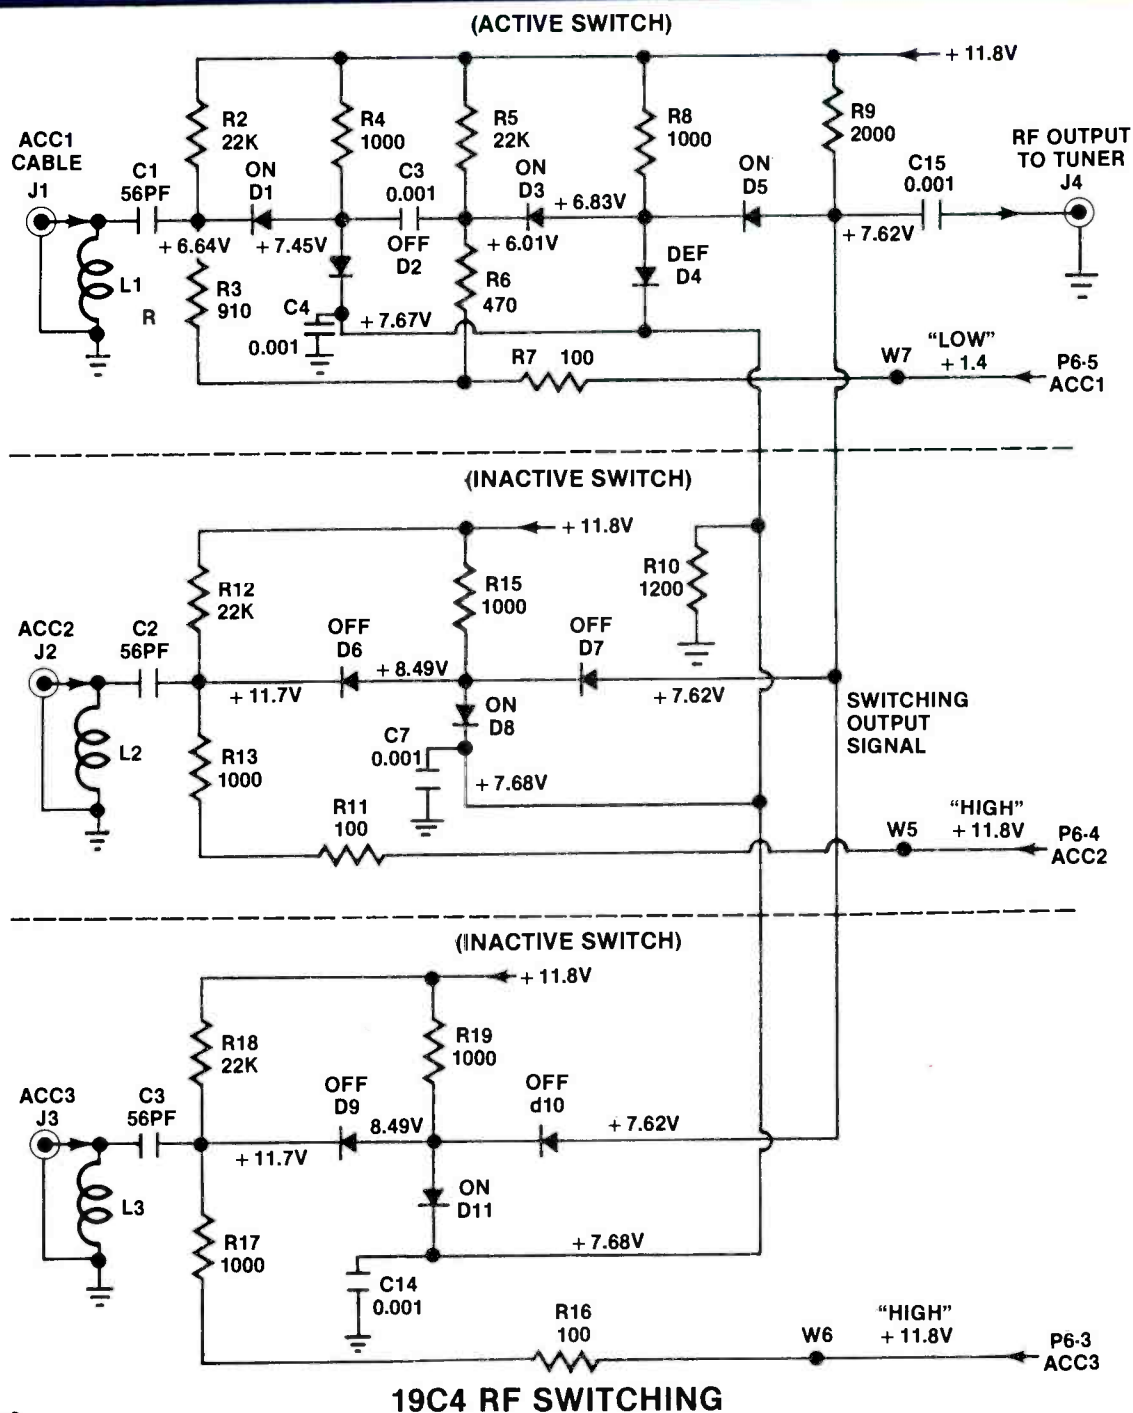

Figure 3.
**Figure 3.** This is the complete RF-switching system (less only some B+ details). The dc voltages shown were measured with the ACC1 signal passing through (active) and the other two blocking their RF signals (inactive). A digital low activates the ACC1 channel (P6-5 pin), while digital highs (+11.8V) applied to P6-4 and P6-3 force the other channels to be inactive. These control dc voltages are produced by an IC on the tuner-control board.
Figure 3 shows the entire 3-channel RF-switching circuit, complete with *measured* dc voltages. My first intention was to calculate the diode dc voltages for active (signal passing) and inactive (signal blocking) conditions, but the many paralleled paths made the mathematical solution so complex that I chose to measure the voltages instead. If you enjoy real puzzles such as this, calculate *all* dc voltages and then compare them with the schematic voltages measured with a DMM.
Operation of the ACC1 switcher (top in Figure 3) in the active mode (which passes the signal to the
Operation of the ACC2 switcher (Figure 3 center schematic) in the inactive mode can be analyzed by these steps:
The RF input marked ACC1-CABLE on the receiver's back and in the Figure 3 schematic should be used for whatever signal is present *at all times*. Therefore, connect the cable, indoor antenna wire or outdoor-antenna downlead to that ACC1 input. The other two inputs can be used for RF from a video game, a computer or a VCR.